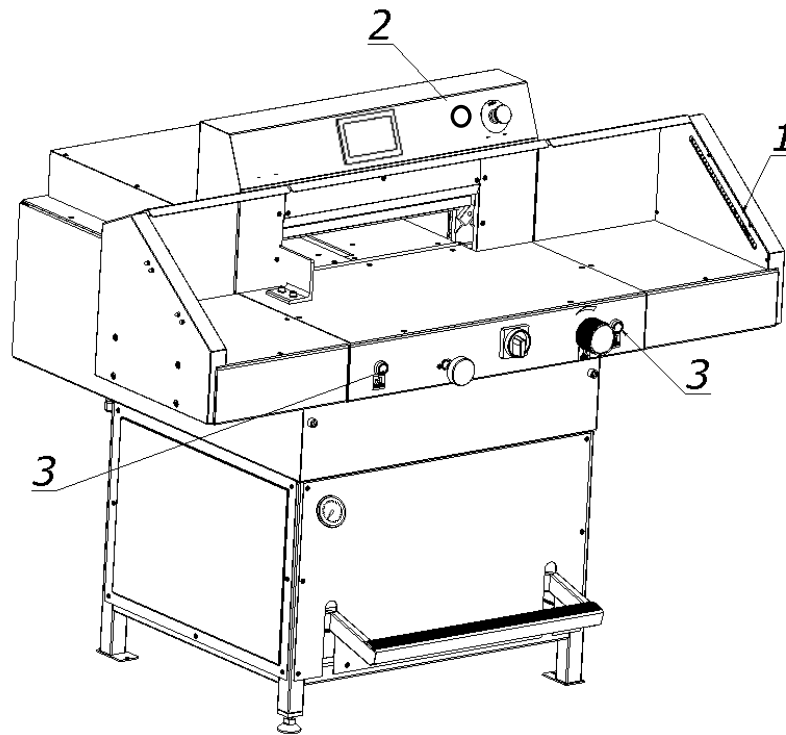

Fig. 19. Operating and signaling elements used during cutting.
1. there is no object in the work area of the light barrier - the green OSSD 1 LED lights up (Fig.11) on the receiver 1 (Fig.19).